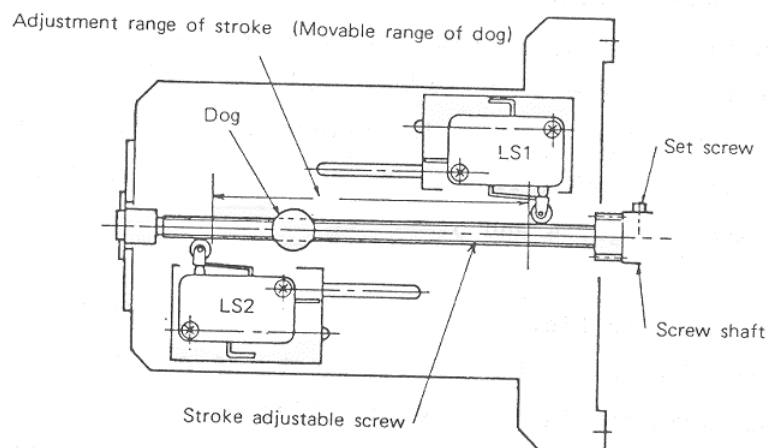

FIG. 7
In Fig.7, move the LS1 to the right side with the dog placed between both the limit switches, and the advance end of the stroke is extended. And move it to the left side, it is shortened. Likewise, move the LS2 towards the right, then the stroke at the retracted end will be shortened. Move the LS2 toward the left, and the stroke at the retracted end will be extended. In both the cases, the piston rod and the dog should be located roughly at the center of the stroke. If either LS1 or LS2 is moved extremely to each end of the stroke, respective dogs may not cut off the limit switch. So, please set the limit switches about 0.1" inwardly of each end of the stroke.
4-2. Here, the most important thing is that as shown in Fig.7, the dog must be absolutely located between the LS1 and LS2. Should they be set erroneously such that the dog is located outside either LS and the machine be actuated as they are, then either LS1 or LS2 will not be turned off at a stroke end and the dog of this actuator or limit switch actuating screws will be broken to make it unusable. When setting or replacing the limit switches, be careful about this point.
- 1). Firstly, turn off the power. Move the LS2 in Fig.7 full to the left, and move the LS1 full to the right.